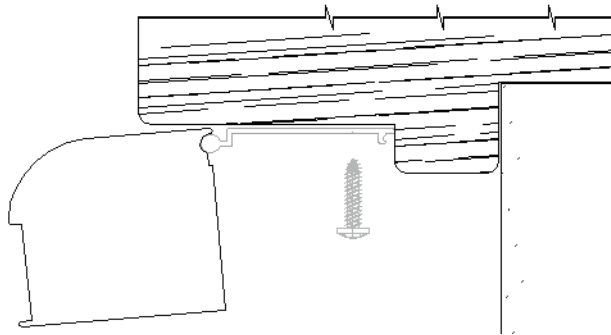

Figure 2
Carefully, making sure not to damage the screen, install the Housing hinge against the stop in the jamb using three (3) #6 x 1" pan-head screws provided (Figure 2). Butt the hinge against the stop in the jamb as shown, and screw it into place.